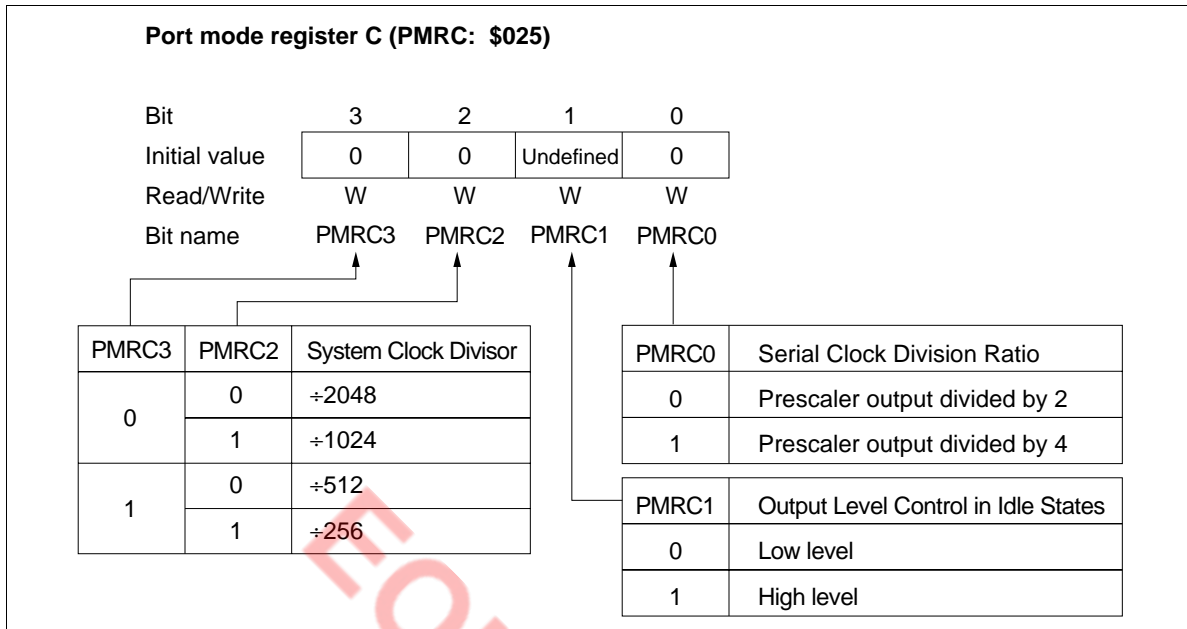

Figure 57 Port Mode Register C (PMRC)
**Port Mode Register C (PMRC: \$025):** Four-bit write-only register that selects the alarm frequencies as shown in figure 57. It is reset to \$0 by MCU reset.